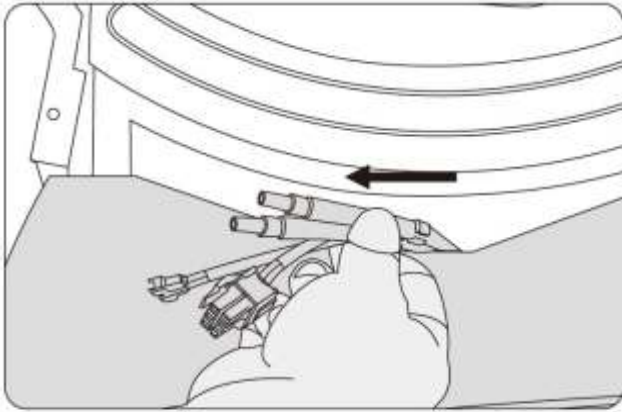
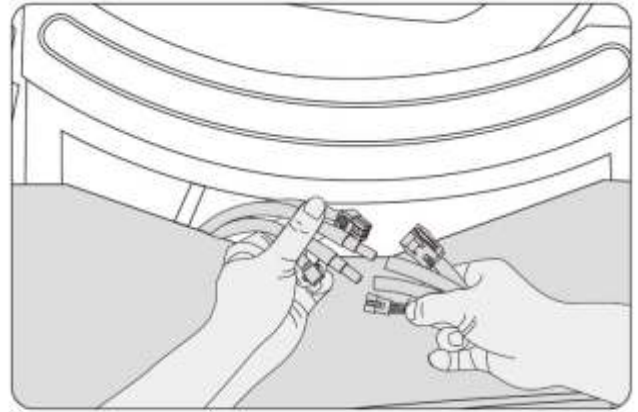
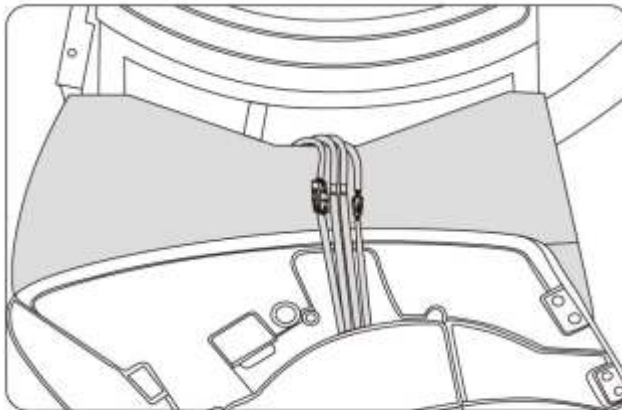

Figure 1
Figure 2
Figure 3
1) Take the cable from the inside of the chair (Figure 1) through the steel frame and out to the outside. Connect the appropriate cables/hoses on the arm rest to those coming out of the chair (Figure 2). Press the compressed air hose firmly onto the connecting piece. Push the cable/hose back into the chair as far as it will go (Figure 3 & 4), whilst bringing the arm rest into position.